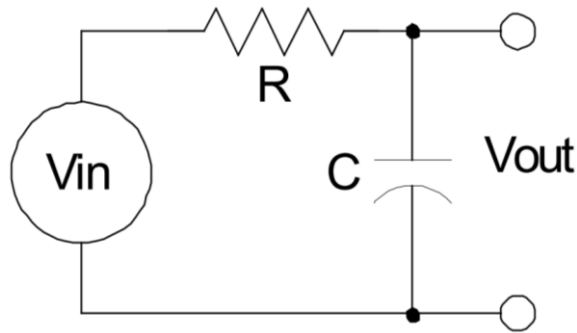

Figure 2. Filter Schematic Diagram
- [PL4] Calculate the cut-off frequency for the filter (See Figure 2).
- B5. Build a low-pass RC filter, shown Figure 2, using the $0.1\mu\text{F}$ capacitor, and a $15.55\text{k}\Omega$ resistance (use a $10\text{k}\Omega$ and a $5.5\text{k}\Omega$ resistor in series).
- B7. Build a high-pass RC filter, as seen in Figure 2, using the $0.1\mu\text{F}$ capacitor, and $15.55\text{k}\Omega$ resistance.